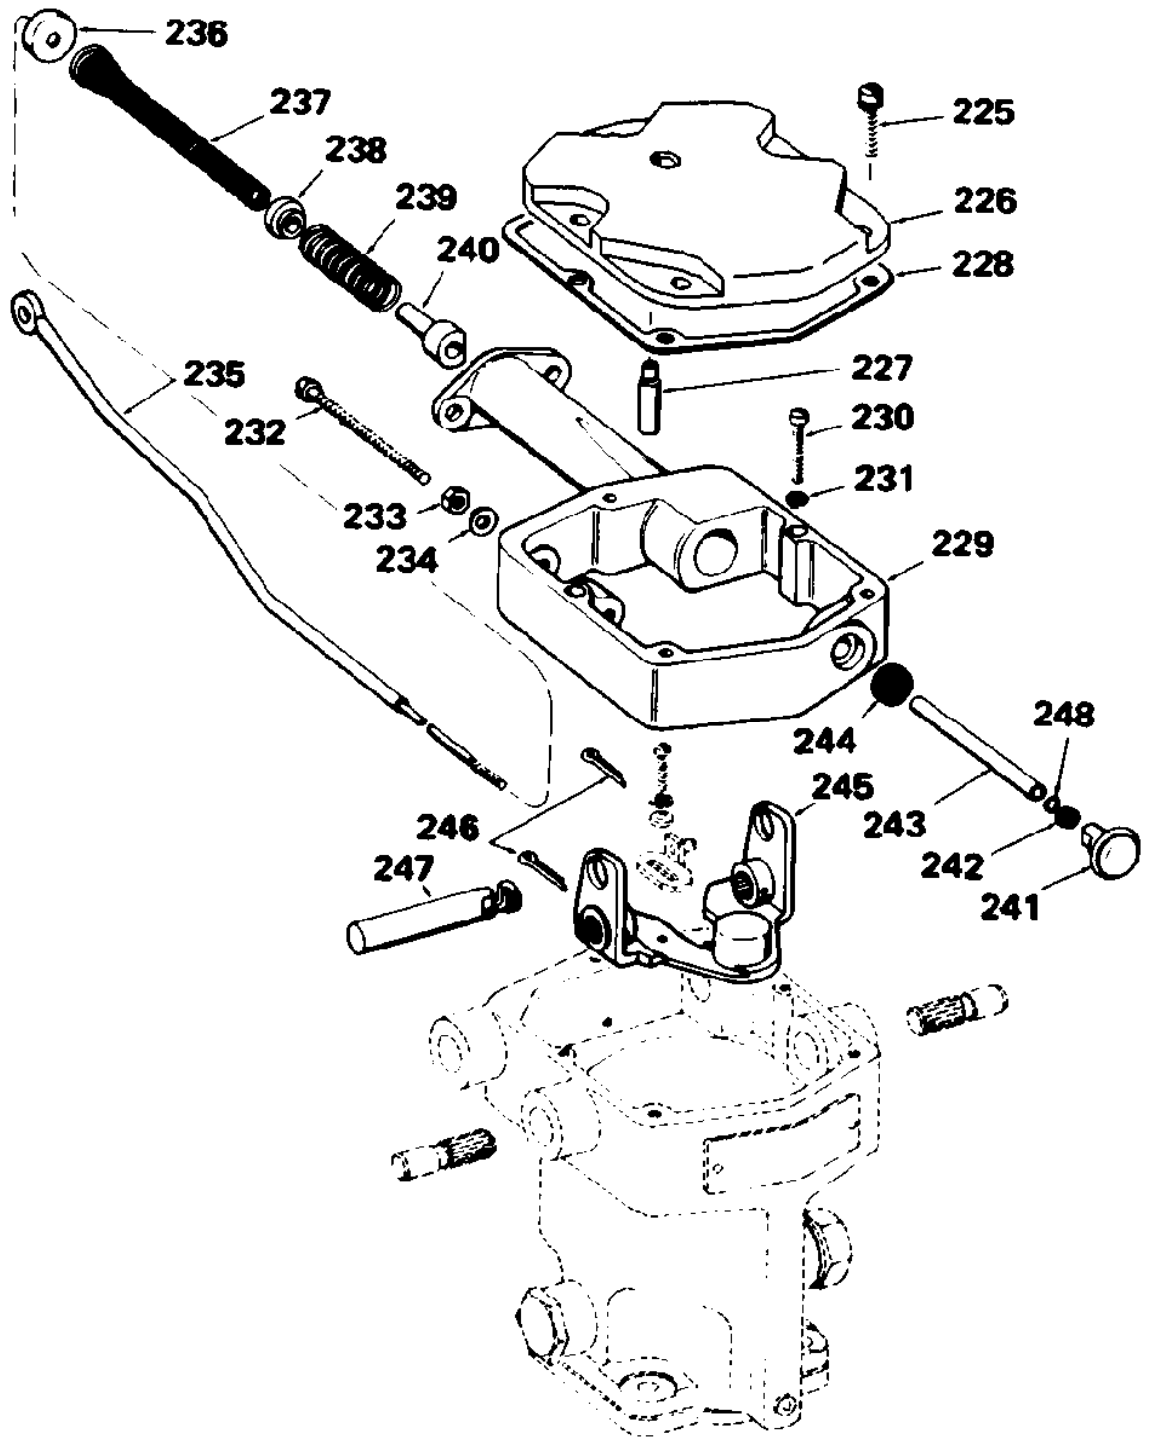

Figure 5-6. Subcap Assembly Parts (linear output)
The parts comprising typical subcap assemblies are shown in Figures 5-6 and 5-7. Except for the subcap assembly, the operation and construction of a governor equipped with a subcap are similar to the conventional governors described in preceding pages.
The output of a governor with the subcap assembly shown in Figure 5-6 is at fuel rod (235) rather than at a terminal shaft. As in other model SG governors, the terminal lever (245) is rotated by the power piston movement as fuel changes are called for by the governor ballhead and pilot valve. The terminal lever pin (247), pushing against fuel rod collar (240), effects the movement of the fuel rod.
### Parts List, Figure 5-6